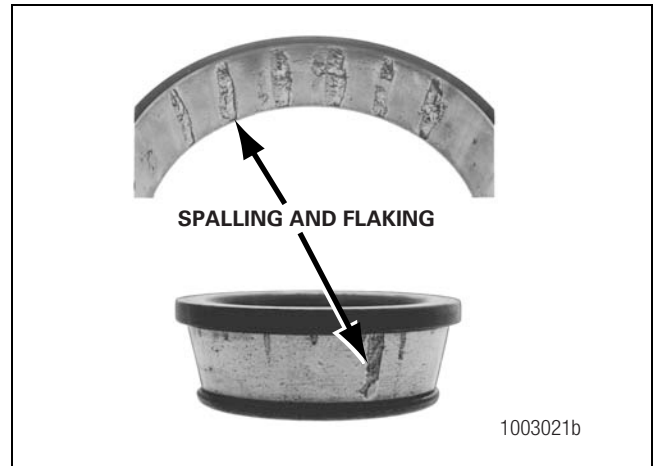

Figure 4.6
- There is damage on the cup and cone inner race surfaces that touch the rollers. Figure 4.6.